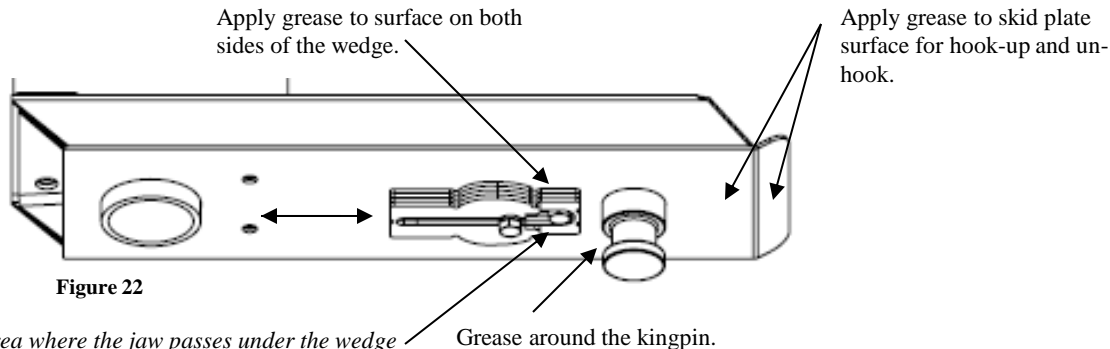

Figure 22
4. Apply grease to the surface on both sides of the wedge, around the kingpin, and the skid plate surface as shown in figure 22. *\*For all Fifth Wheel Heads, lubricate the area where the jaw passes under the wedge.*